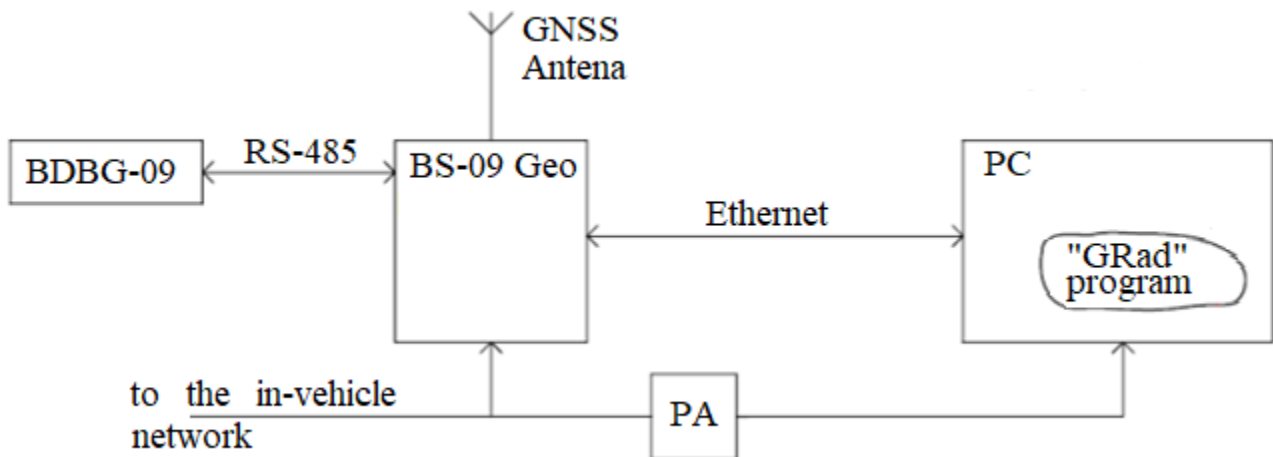

Figure 1 – Block diagram of SHS
Block diagram of SHS shown in Fig.1.
2.3.2.2 Install the SHS on the vehicle according to Figure 1.